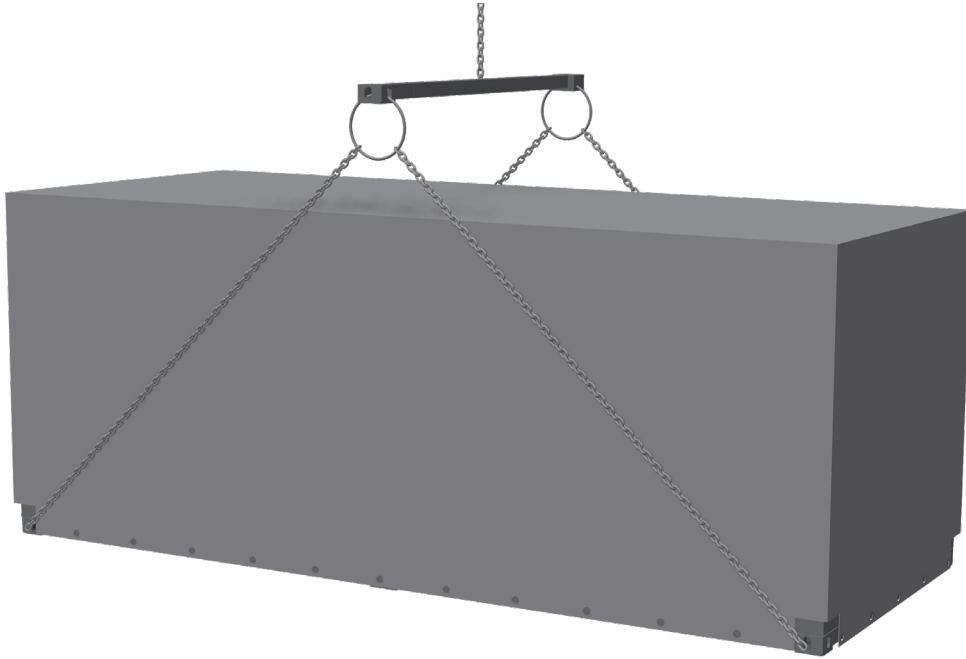

Figure 3.3 Lifting and positioning
- Fix chains or straps to all corners (see *Figure 3.3*), securely lift and move the system.